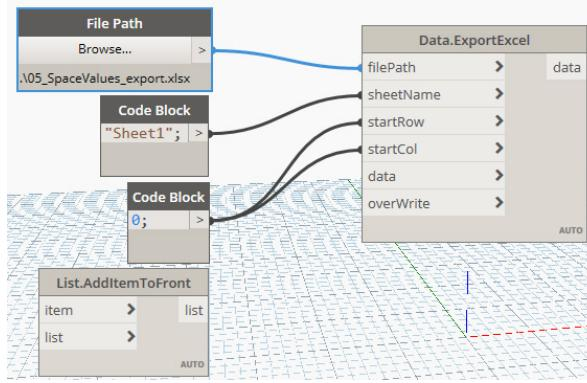

Figure 66
27. Wire this into the `filePath` input (see Figure 66).